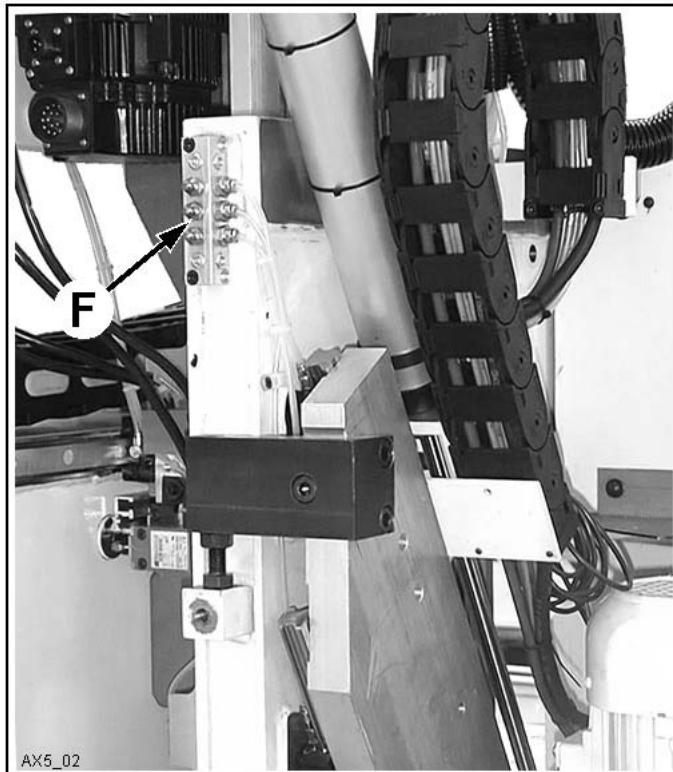

Fig. 12
- Inject approximately 1cm³ of grease (aprox. 2 pumping - Type "AGIP GRMU EP0") into each grease nipple F (Fig. 12). Clean away any excess grease.